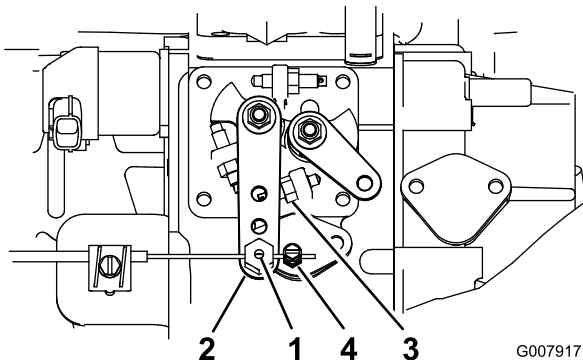

Figure 42
3. Hold the injection pump lever arm against the high idle stop (Figure 42).
2. Loosen the throttle cable connector, on the throttle cable, next to the injection pump lever (Figure 42).